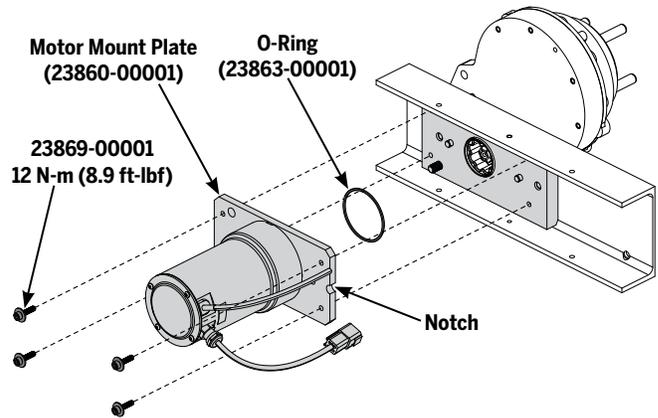

Figure 130: Motor Assembly
5. Using a 5 mm hex wrench, remove the four fasteners as shown in **Figure 130**. Lift the Motor Assembly out of the motor cavity.
8. Orient the Motor Assembly so the notch on the motor mount plate is toward the rear of the SE-3 Patroller. Slide the Motor Assembly into place (**Figure 130**).
9. Using a 5 mm hex wrench, install the four fasteners as shown in **Figure 130**.